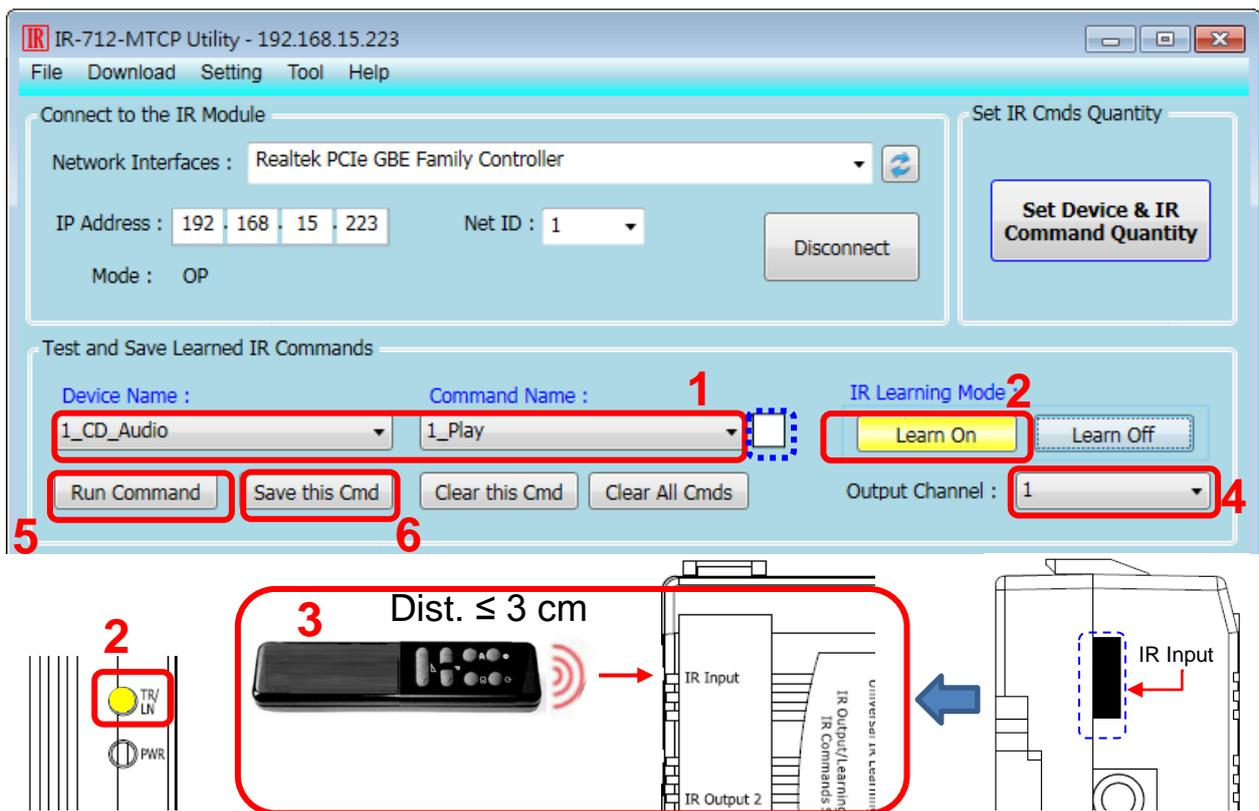

Figure 3-5 Steps of IR learning
Learning steps are as follows and refer to Fig. 3-5:
- (1) Select the IR command item from “Device Name” and “Command Name” ComboBoxes.
- (2) Click “Learn On” button to enable IR learning mode where TR/LN LED is ON.
- (3) Aim the emitter head of the remote control (RC) to the “IR Input” position of IR-712-MTCP and push the RC’s button which is to be learned in a short time. The distance between IR-712-MTCP and RC should be less than 3 cm. After IR learning is finished, the TR/LN LED is OFF. The learning result is sent back to the utility.
- (4) Select the item of IR output channel combobox, e.g. “1” means that IR Output 1 is selected.
(5) Aim the IR emitter, which is plugged in IR Output 1 jack, at the IR receiver of the controlled device. Click “Run Command” button to check the effectiveness of the IR learning command. Repeat step (2) and (3) if there is no action on the device.
(6) Click “Save this Cmd” button to save the learning data to the item of “Command Name” combobox, e.g. the item in Fig. 3-5 is “Play”.